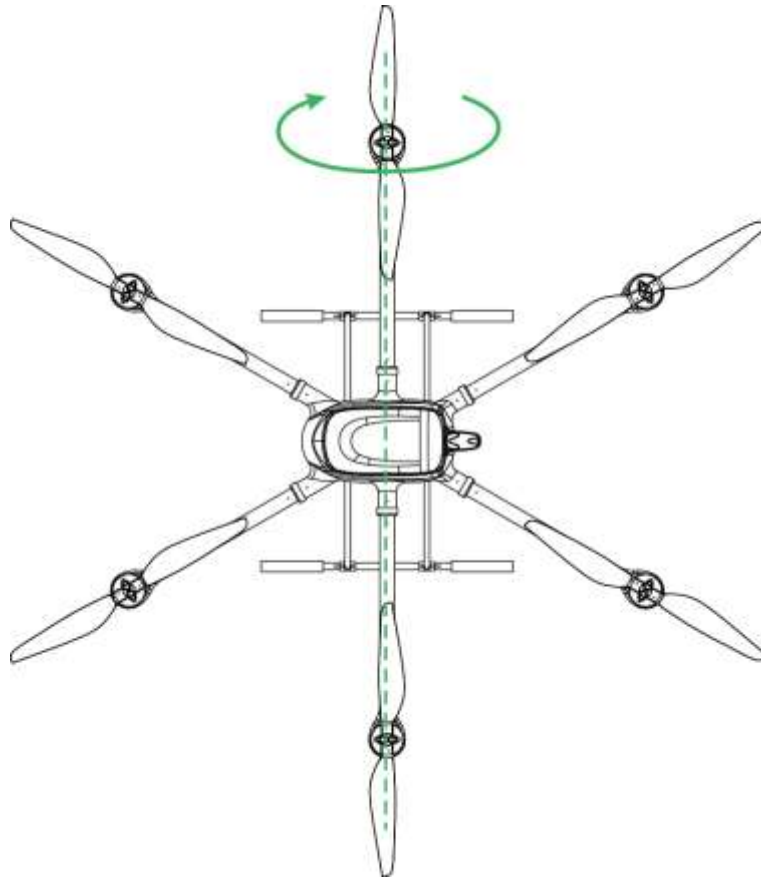

Figure 3-33
Step 4 Keep the aircraft vertical and rotate it for one circle vertically, as shown in Figure 3-33.